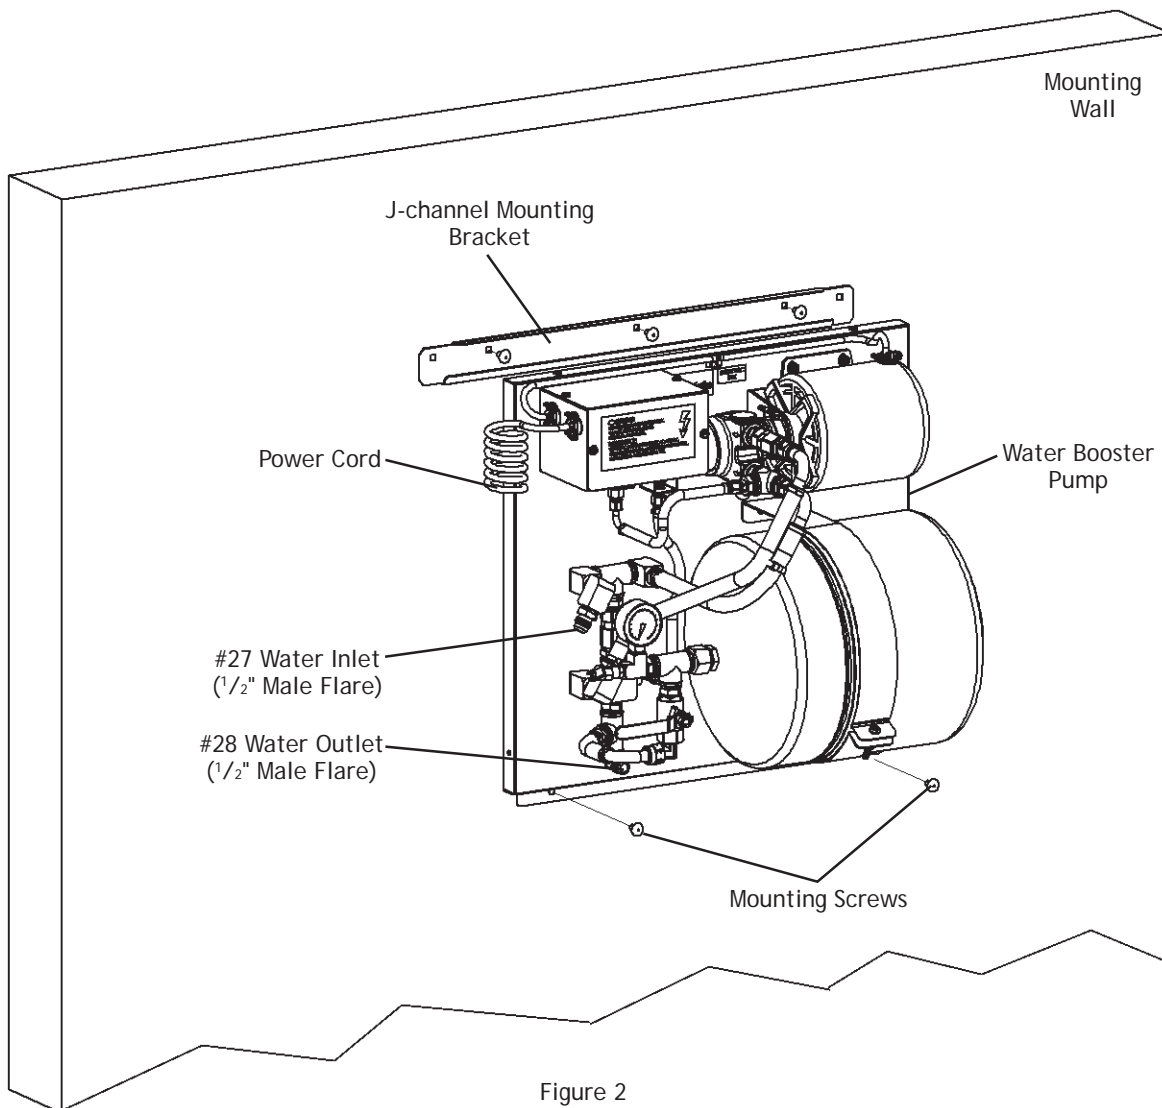

Figure 2
3. Mount the booster Panel on the wall by raising the top of the panel over the J-channel. Place the panel against wall and slide the panel down until it catches on the J-channel. Mount the bottom of the panel to the wall using the remaining two (2) screws (refer to figure 2).
4. Attach a $\frac{1}{2}$ " ID water inlet line to the inlet fitting labeled #27 using the Barb stem, nut, and clamp provided. Then attach another $\frac{1}{2}$ " ID line to the Water Outlet labeled #28 using the remaining Barb stem, nut, and clamp (refer to figure 2).